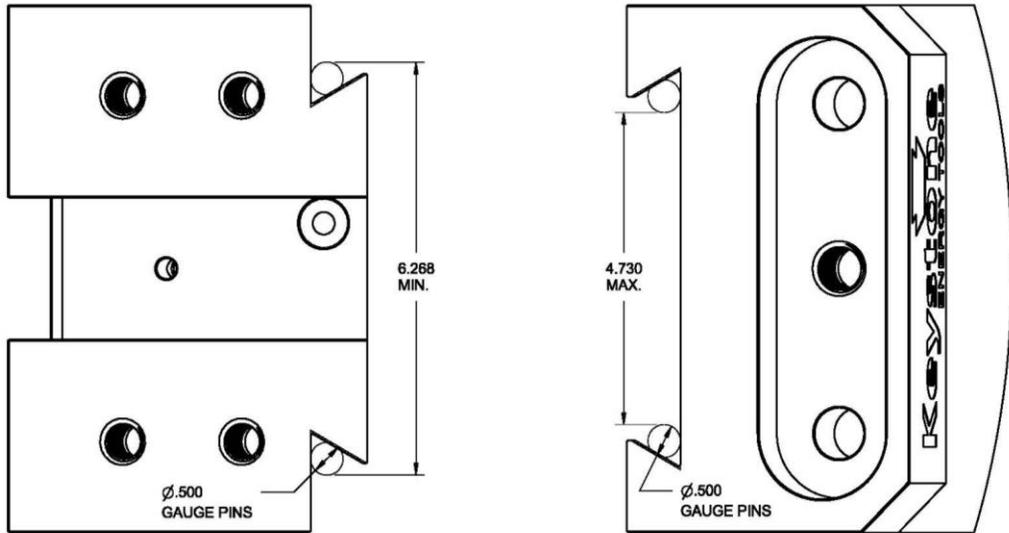

Fig. 36
- Check the slips and bowls for wear. The slips will need to be in the fully extended position “Slips UP” (see fig. 36 & 37).